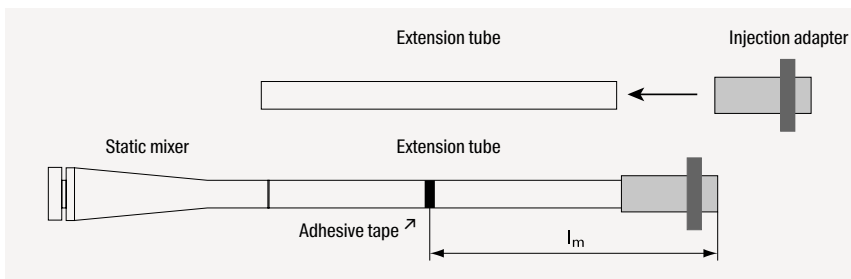

Fig. 7: Preparation of the extension injection system
- Finally, the length of injection l_m is marked with adhesive tape on the extension tube as per Fig. 7